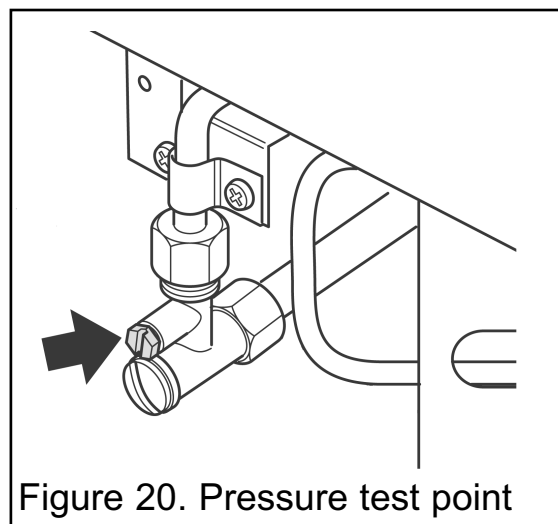

Figure 20. Pressure test point
1. Check the inlet pressure by fitting a pressure gauge at the test point. The test point is on the inlet elbow (See figure 20). Check the pressure with the appliance alight and set at maximum output.